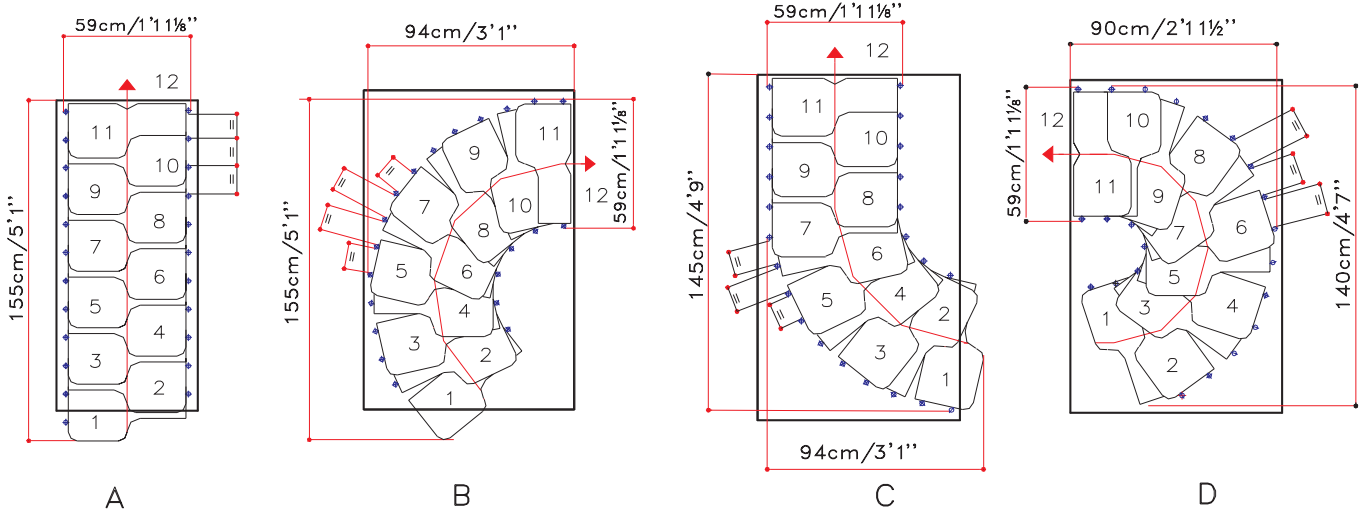
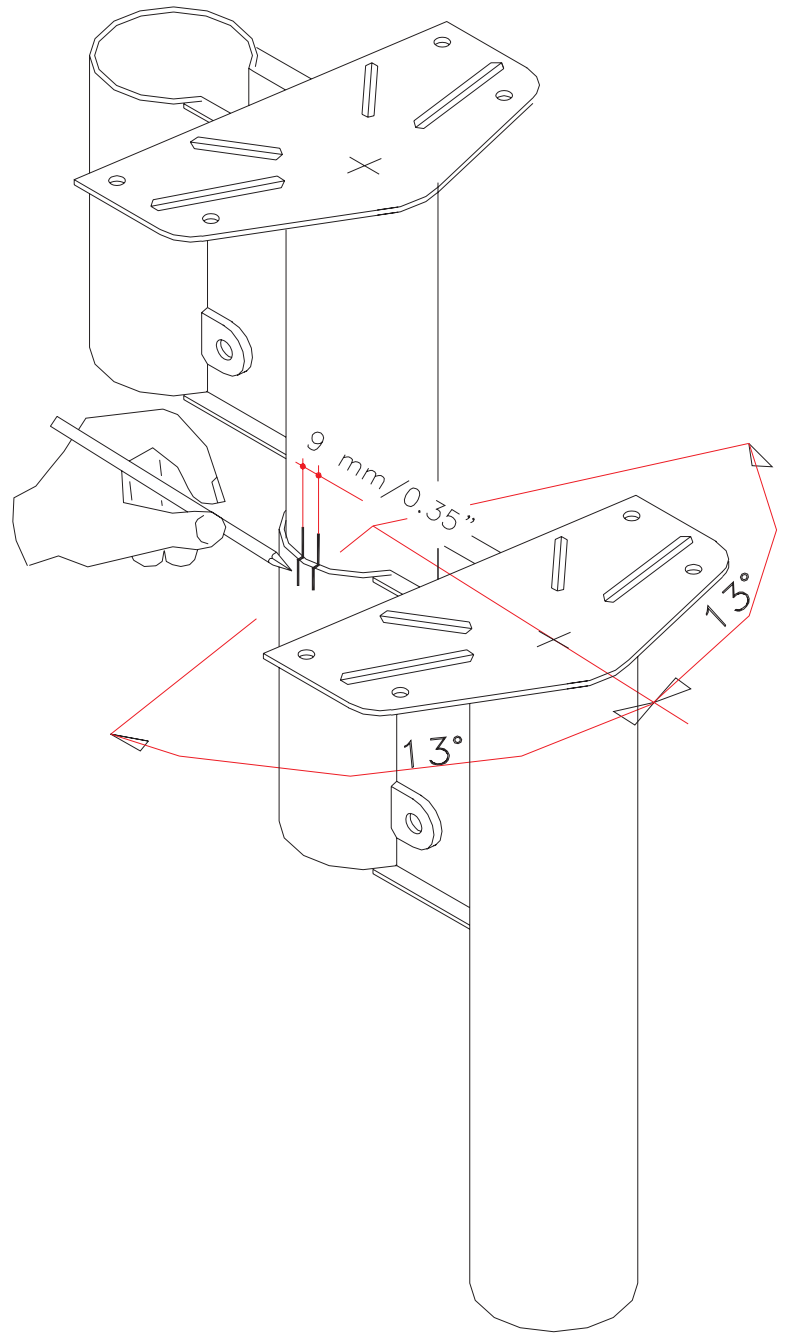

FIG. 5
FIG. 7
12. Cut along the shape (fig. 5) for the configurations A, B, C or the shape (fig.7) for the configuration D.